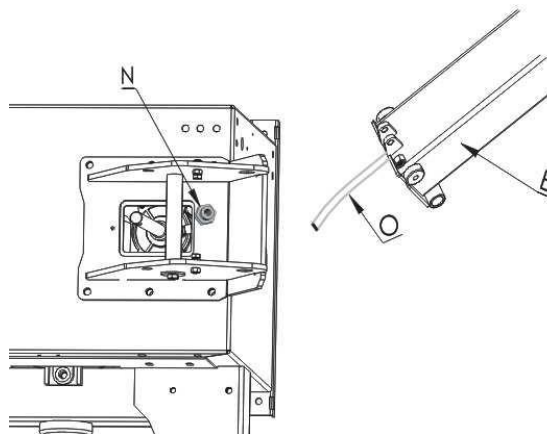

Fig. 7
- Backward the post, insert the hose O into N(Fig.7).